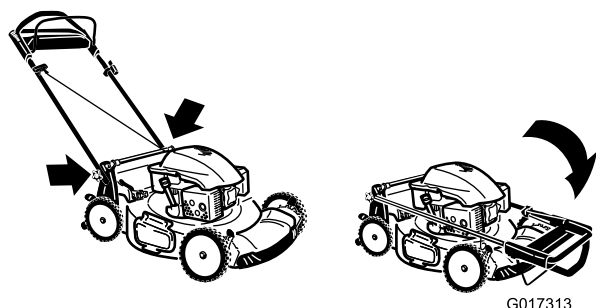

Figure 33
3. Fold the upper handle forward as shown in Figure 33.